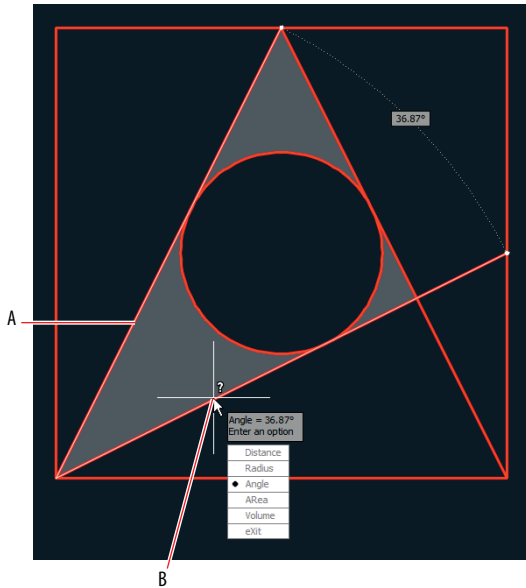

FIGURE 11.11 Measuring the angle between two lines
- Select the Angle option in the dynamic prompt. Select lines A and B shown in Figure 11.11. The command prompt now gives the following value: